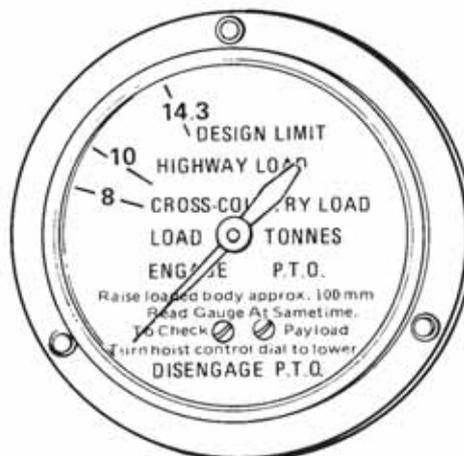

Figure 4 Load Indicator Gauge
- (2) Load limits for the dump truck can be checked on the load indicator gauge (Figure 4) mounted inside the cab, on the rear wall. This gauge indicates the pressure inside the hydraulic ram. The load limits are expressed in tonnes.